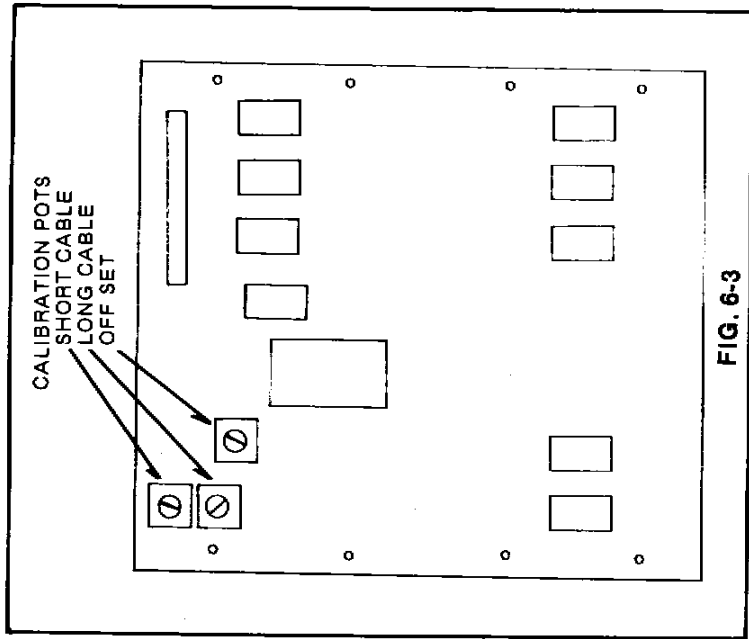

FIG. 6-3
5. Connect a measured 200 foot piece of cable with a known velocity of propagation to the PULSE OUT front panel BNC connector. Dial this number into the velocity of propagation thumbwheel switch. Adjust the OFFSET pot for the proper reading on the display (see Fig. 6-3).